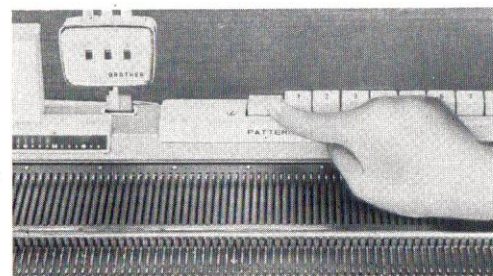

Fig. 9
- (5) Swivel the set lever again, the same needle's group will be raised up.
- (6) Push down the "release" button, then the button "1" will be released. (See Fig. 9)